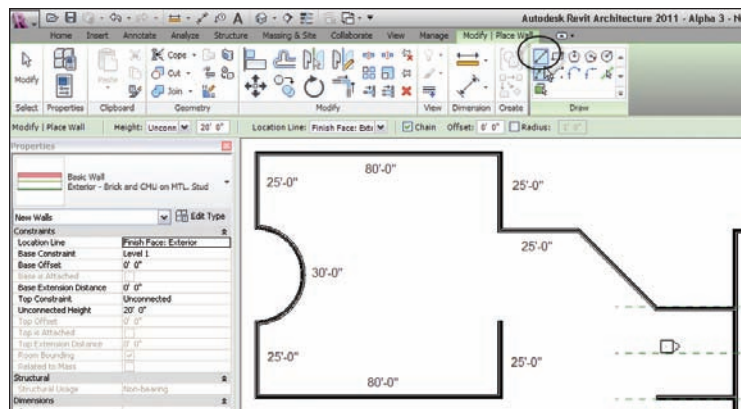

FIGURE 2.10 The building up to this point
21. On the Draw panel, check the line button in the upper-left corner as shown in Figure 2.10. This will allow you to draw a straight wall again.
25. Press Esc. Your building should look like Figure 2.10.